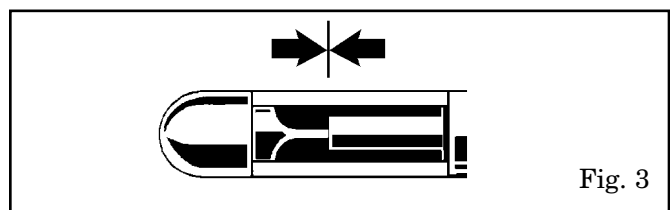

Fig. 3
3. Clean face of spindle and anvil and close together. See Fig. 3.